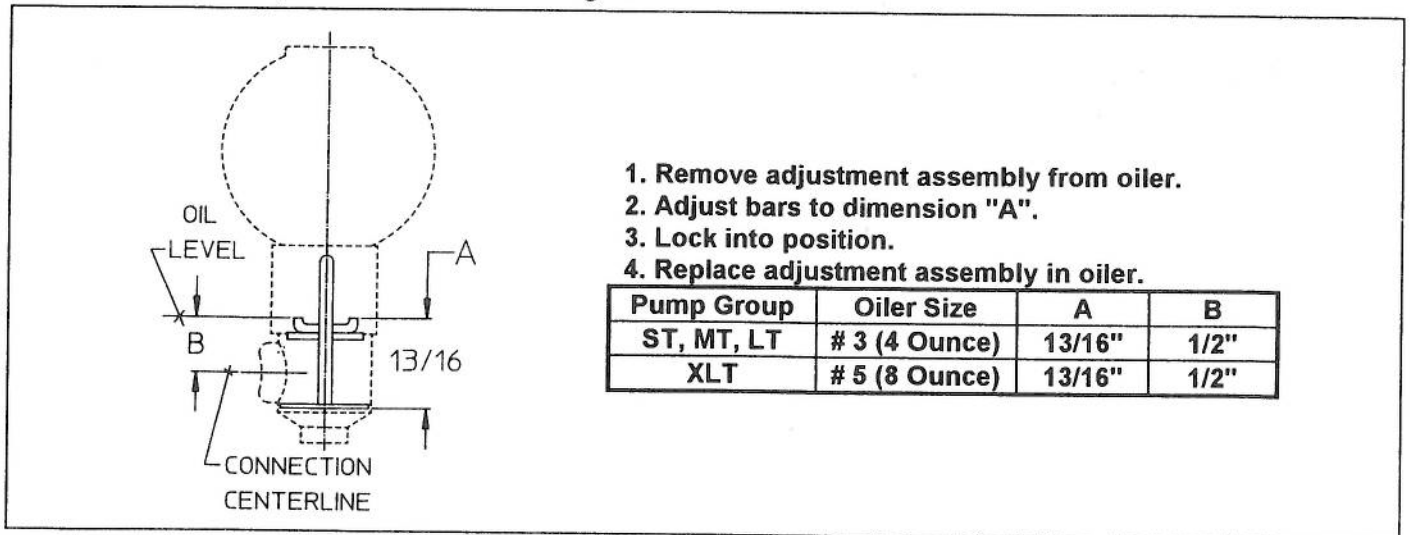

FIGURE 6. OIL LUBRICATED BEARINGS
- a. Lubrication-** Pump bearings are normally oil lubricated. (***THE BEARINGS ARE NOT LUBRICATED AT THE FACTORY.***) These pumps are supplied with an oiler which maintains a constant oil level in the bearing frame. Locate oiler as shown on the outline drawings supplied for the unit. For correct adjustment of oiler see Fig. 6